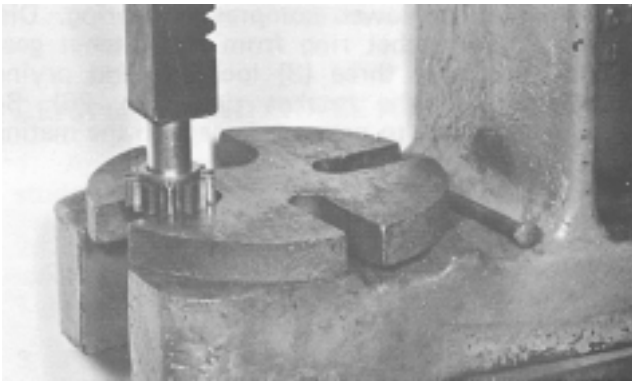

Figure 23
10. Remove needle bearing from ratchet gear using a sleeve and arbor press (Fig. 23).